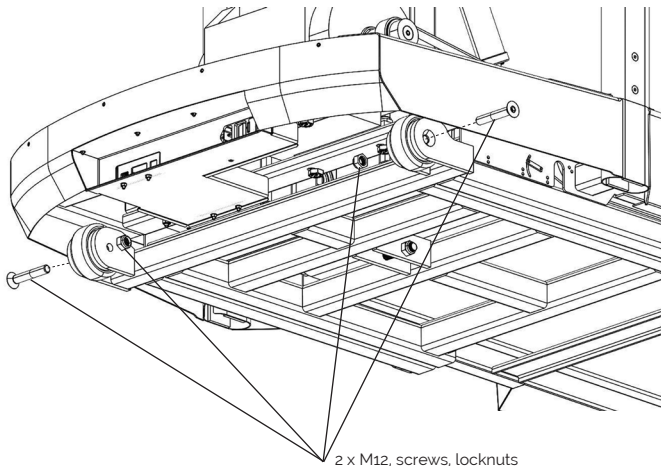

FIGURE 1
1. Remove two M12 screws and locknuts, see fig: 1